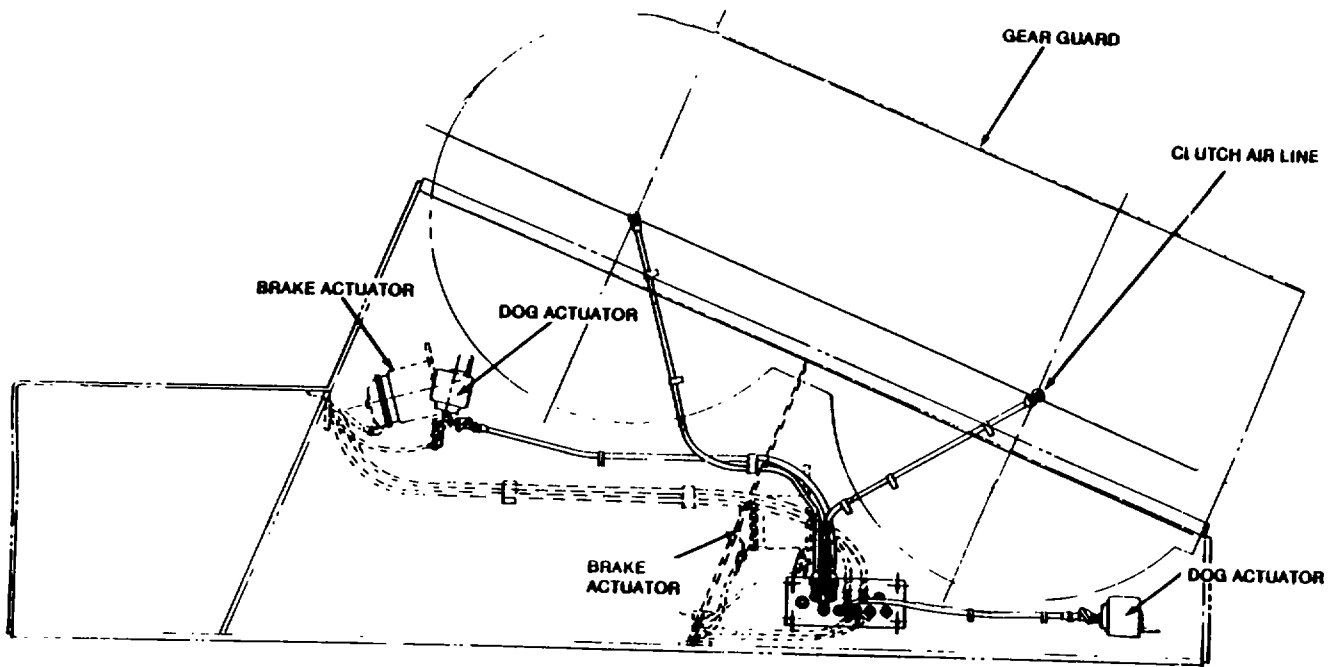

Figure 6-38. Air Distribution Compression and Storage.
a. Compression and Storage. Figure 6-38 shows the items needed to receive the compressed air from the compressor, control the pressure, store the air and ensure delivery of clean, dry air to the control console.
(1) Air from the compressor is carried by 5/8 inch Teflon hose and suitable fittings, through a check valve to the air reservoir.
(2) Pressure-sensing air is transmitted from a fitting at the top of the air reservoir through 1/4-inch "push-on" hose to the "reservoir" port of the compressor governor.
(3) Control air passes from the reservoir through an air line filter to remove any entrained dirt or moisture to the control console.
(4) Clean, dry control air is received at the control console manifold. The winch operating valves and throttle control then direct control air through the hoist air terminal and from there through 5/8 inch pneumatic hoses to: